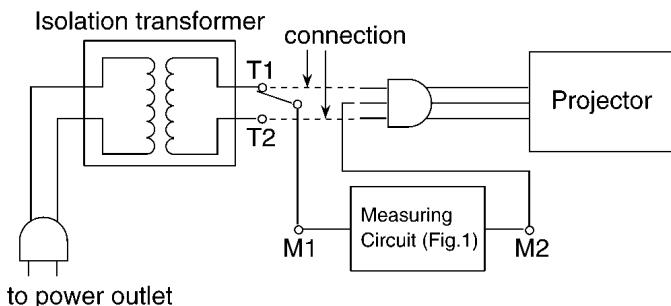

Fig. 2
3. Connect M1 to T1 according to Fig. 2 and measure the voltage.
- Assemble the circuit as shown in Fig. 2. Plug the power cord in a power outlet.